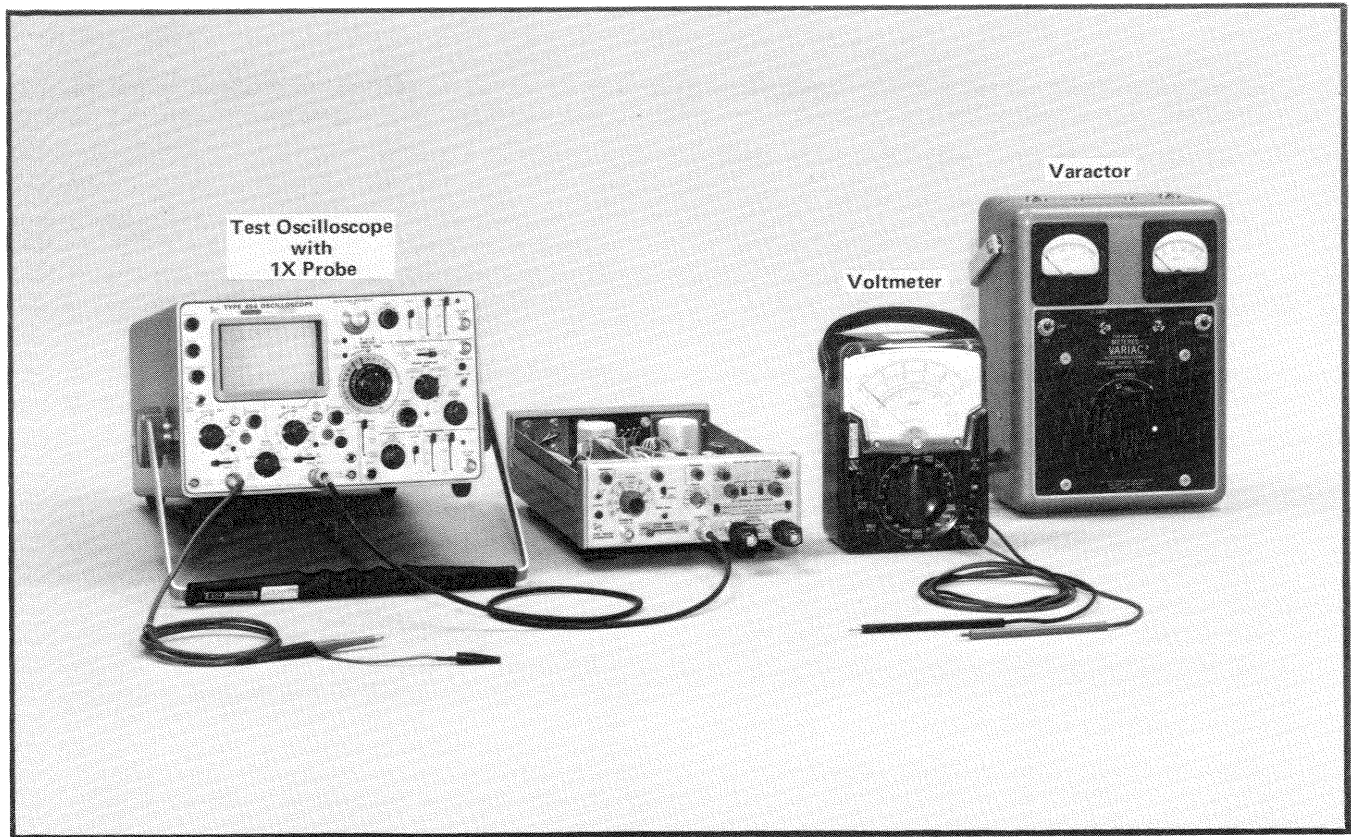

Fig. 5-1. Test equipment setup to check/adjust power supply and pulse triggering. (Steps 1-5)
- a. Equipment setup is shown in Fig. 5-1.
a. Test equipment setup is shown in Fig. 5-1.